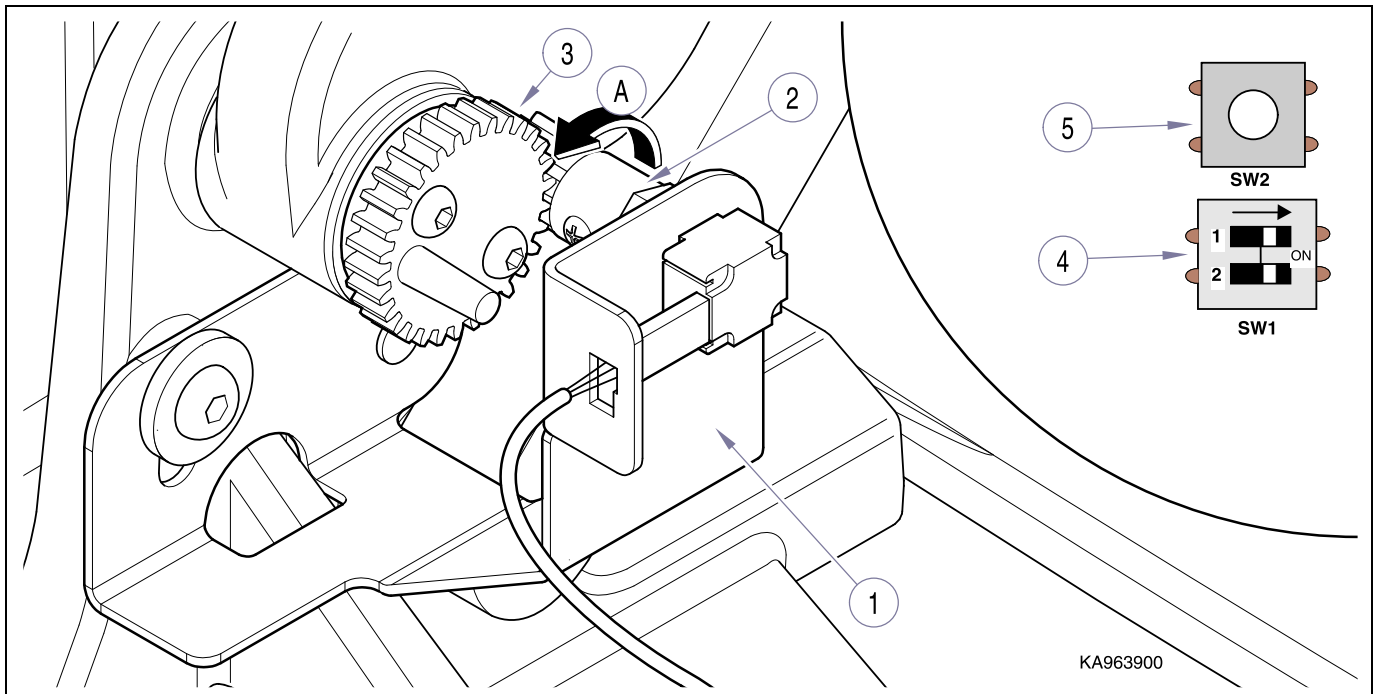

Figure 4-20. Base Potentiometer.
- (1) Loosen mounting screws on lower sensor bracket (1, Fig. 4-20) and rotate bracket so pinion gear (2) is disengaged from drive gear (3).
- (2) Rotate pinion gear (2) on potentiometer shaft **counter-clockwise** (A), viewed from back of potentiometer, until it stops, aligning teeth on pinion with teeth on drive gear (3)
- (3) Turn the pinion gear (2) **back, (clockwise)** two teeth and align with drive gear (3).
- (4) Tighten mounting screws.
- (5) Place SW1 switches (4), on P.C. board, both in **ON** position.
- (6) Press Calibration button (5).